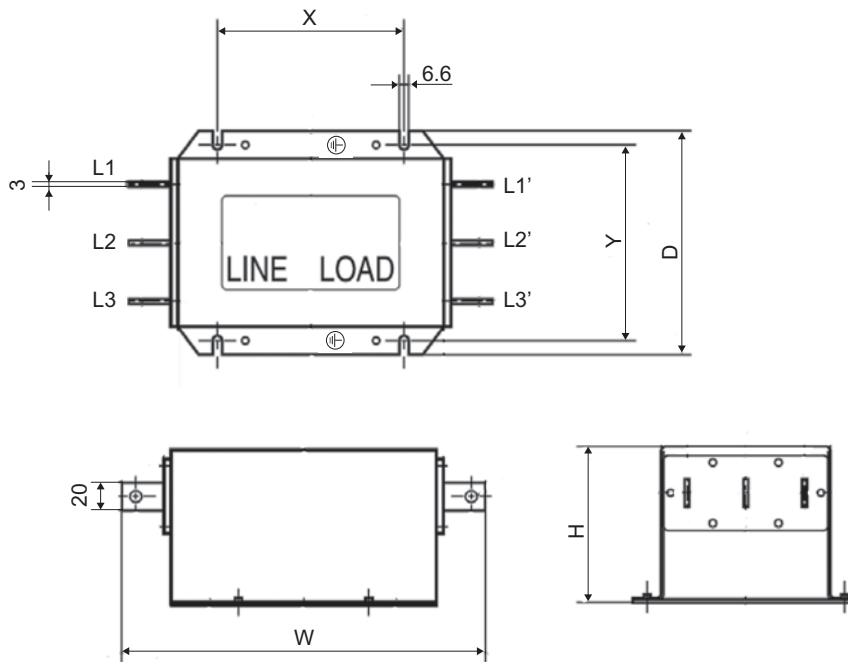

Figure D.14 EMC Filter Dimensions (4A0060, 4A0100)
| 4A0060 | B84143B0180S080 | EPCOS | 180 | 5 (11) | 270 × 114 × 170 (10.6 × 4.5 × 6.7) | 155 × 145 (6.1 × 5.7) | Figure D.14 |
| 4A0100 | B84143B0180S080 | EPCOS | 180 | 5 (11) | 270 × 114 × 170 (10.6 × 4.5 × 6.7) | 155 × 145 (6.1 × 5.7) | Figure D.14 |